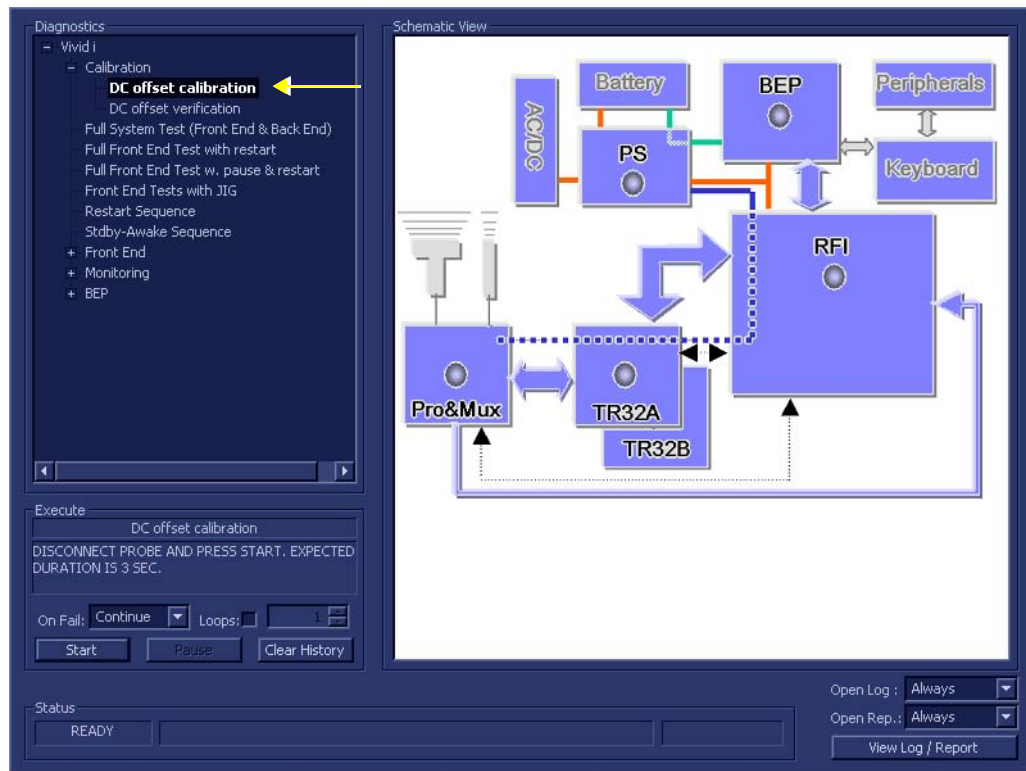

Figure 7-6 DC Offset Calibration Test
- 1.) In the *Diagnostic Test* window, trackball to **DC Offset Calibration** in the list of *Front End* tests available for selection from the Diagnostic Test Tree (see Figure 7-6 below) and press **Set**. The DC Offset Calibration name is displayed under *Execute*; the relevant system components to be tested are highlighted light blue in the Schematic View (PM, TR32 and RFI boards) as shown below: